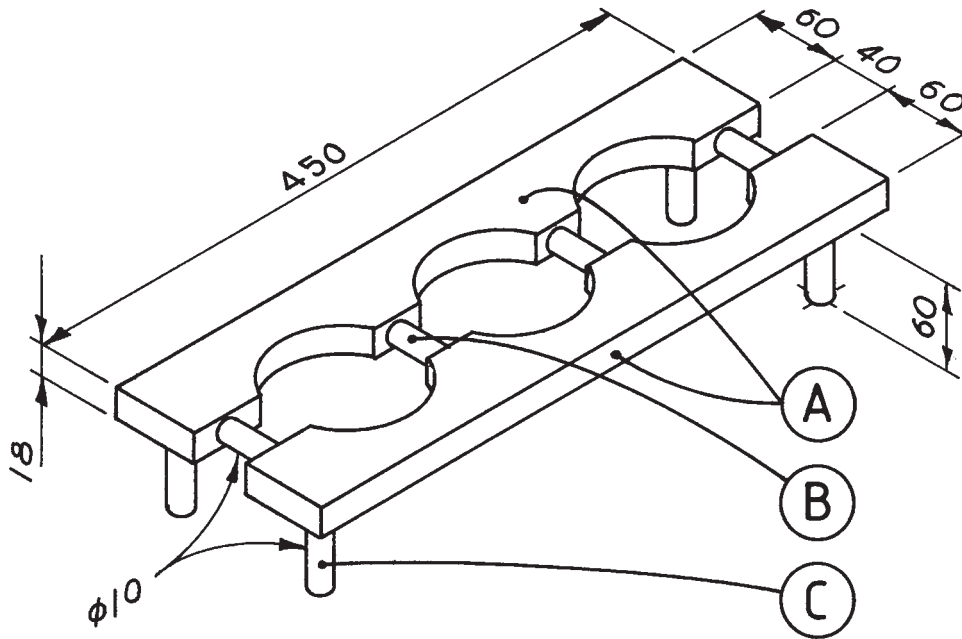

FIG. 2. BOTTLE HOLDER
- (b) A pictorial sketch of a bottle holder as an accessory for the entertainment trolley is shown in Figure 2.